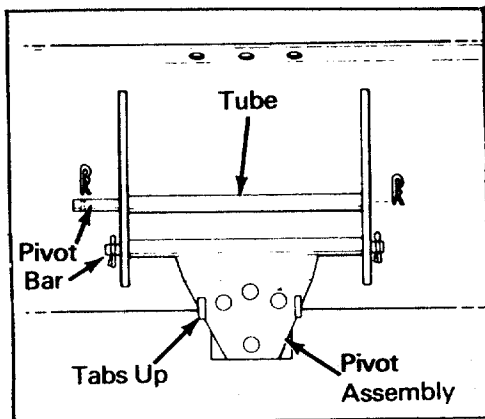

FIGURE 2
2. Lay the Blade flat with its face down. Assemble the Pivot Assembly to the Blade by Placing the Bar 3/4" Dia. through the tube on the Pivot Assembly and through the LOWER holes in the blade mounting bar on the back of the blade and secure with Cotter Pins. See figure 2.
3. Place the other Pivot Bar through the UPPER holes in the blade mounting bar on the back of the blade, through the tube and secure with Cotter Hair Pins. See figure 2.